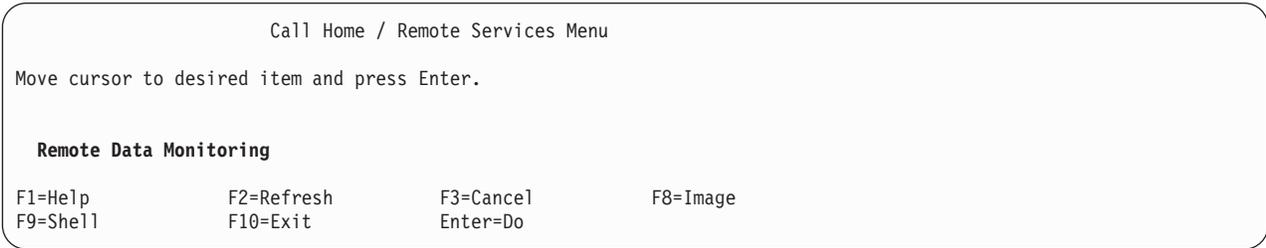
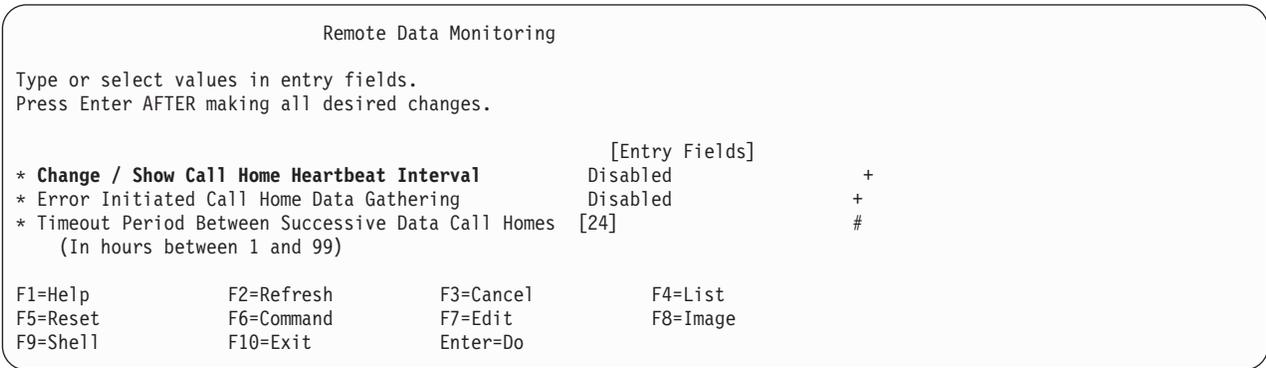

Figure 142. Call Home / Remote Services Menu – Remote Data Monitoring
Figure 143. Remote Data Monitoring Menu – Change / Show Call Home Heartbeat Interval
3. At Figure 142, select **Remote Data Monitoring**, and press **Enter**. Figure 143 displays.
Attention: Select the illustrated line item only at **Figure 142**. No other menu display items are applicable for this process.
4. At Figure 143, select **Change / Show Call Home Heartbeat Interval**, and press **Enter**.
Attention: Select the illustrated line item only at **Figure 143**. No other menu display items are applicable for this process.